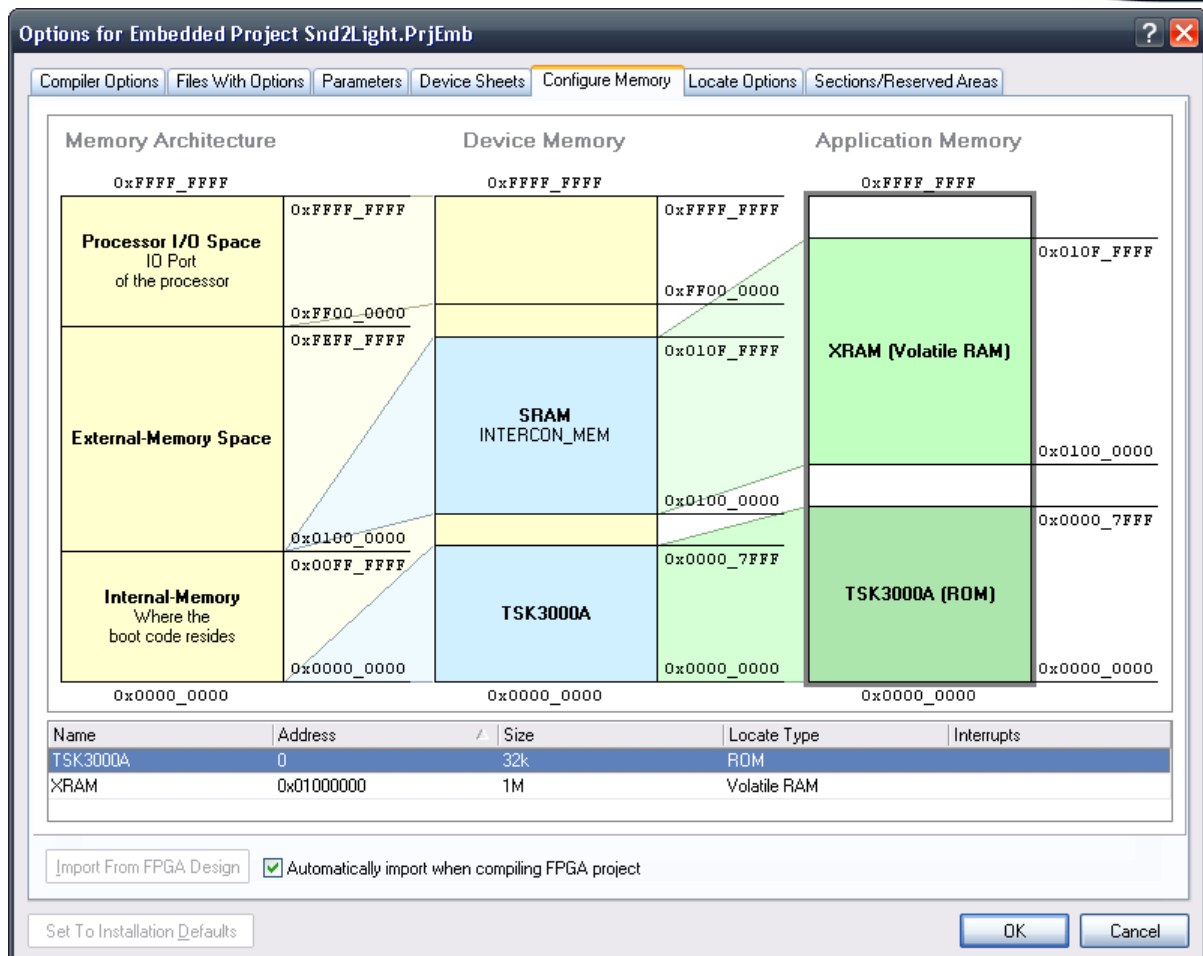
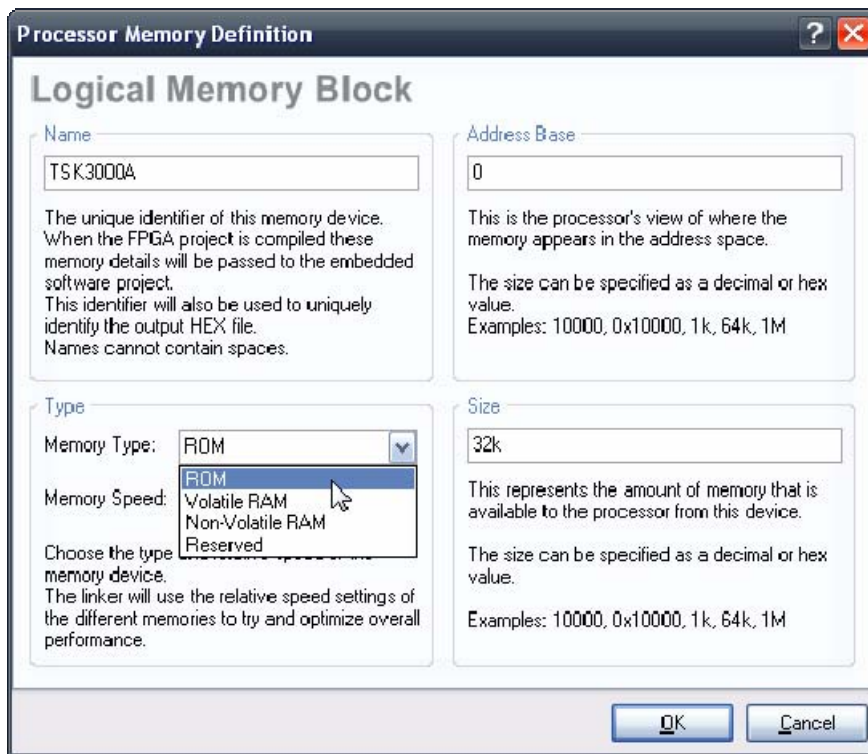

Figure 14. Embedded project memory map.
Figure 15. Setting the boot memory to Memory Type: ROM.
35. Right-click on the **Snd2Light.PrjEmb** embedded project, and click **Project Options**. Click on the **Configure Memory** tab – you can see that the memory map defined in hardware has been automatically imported into the embedded project, as shown in the upper part of Figure 14.
- Double-click on the TSK3000A row in the memory table (Figure 14) and configure the memory as ROM instead of Non-Volatile RAM, as shown in Figure 15. Doing this means that the TSK3000A will boot from internal memory automatically, whenever the design is downloaded to the NB3000. Click **OK** to apply the changes and close both dialogs.